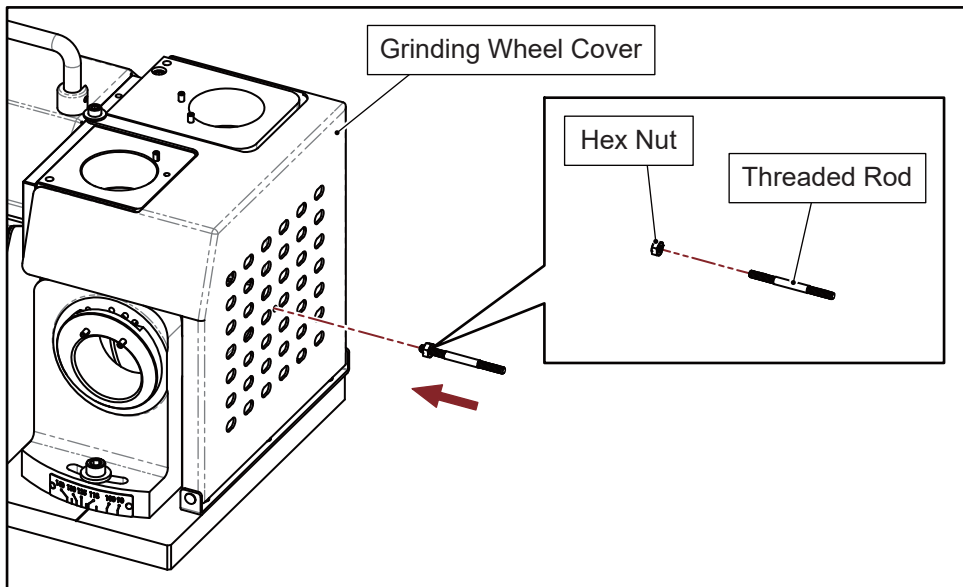

Fig. 2-1
1. Thread the hex nut onto the suitable position of the threaded rod, align the end of the threaded rod containing the hex nut to the tapped hole of grinding wheel cover, and turn the threaded rod clockwise to thread the rod into the grinding wheel cover and tighten lightly. (Fig. 2-1)